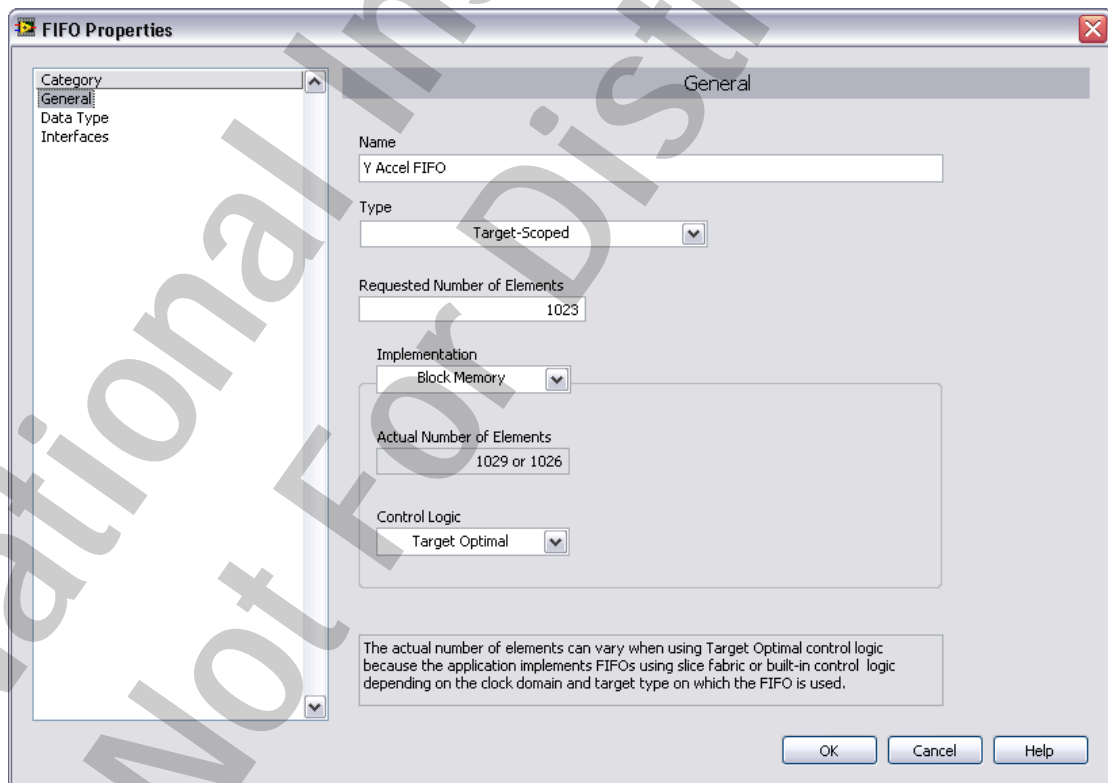

Figure 6-1. Y Accel FIFO Properties – General Category
- ☐ In the FPGA FIFO Properties dialog box, select **General** from the Category list and configure the FIFO as shown in Figure 6-1.